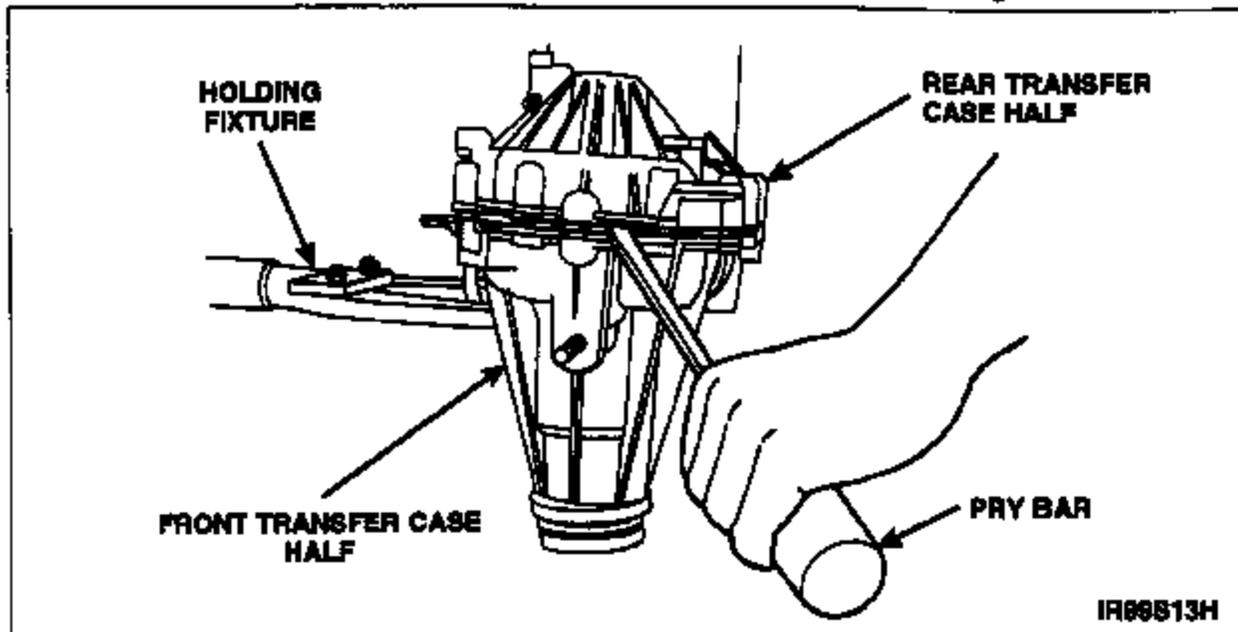

FIGURE 8
34. Remove the two (2) remaining transfer case half screws.
36. Using two prybars in the pry slots, separate the transfer case halves. See Figure 8.